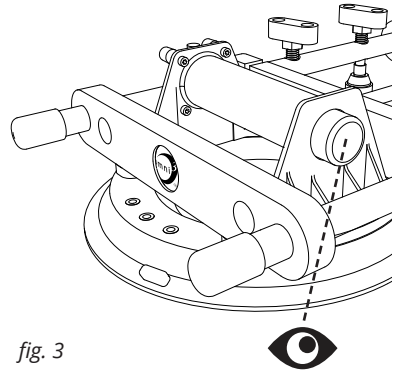

fig. 3
11. Continually monitor thumb pumps to ensure red warning collar is not visible. If red warning collar becomes visible, re-pump the thumb pumps. (see fig. 3)